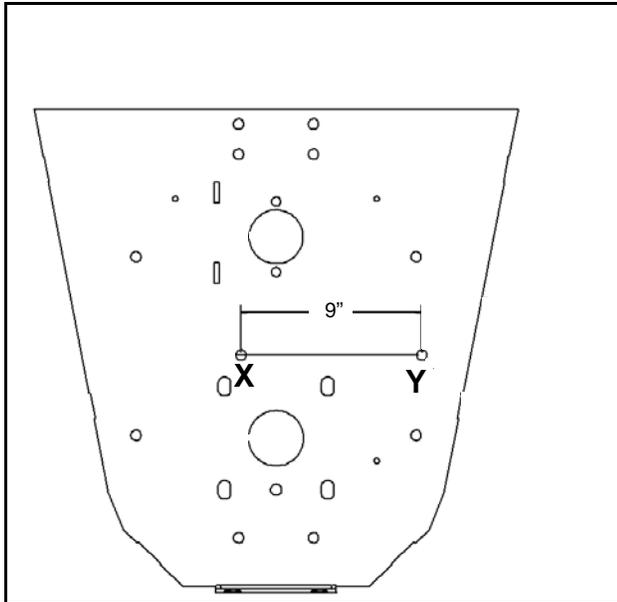

Figure 1 Locating Reverser Bolt Holes
1. Locate hole “X” and hole “Y” (9 inches from “X”, see Figure 1). Knock the steel plugs out of these holes using a punch and hammer.